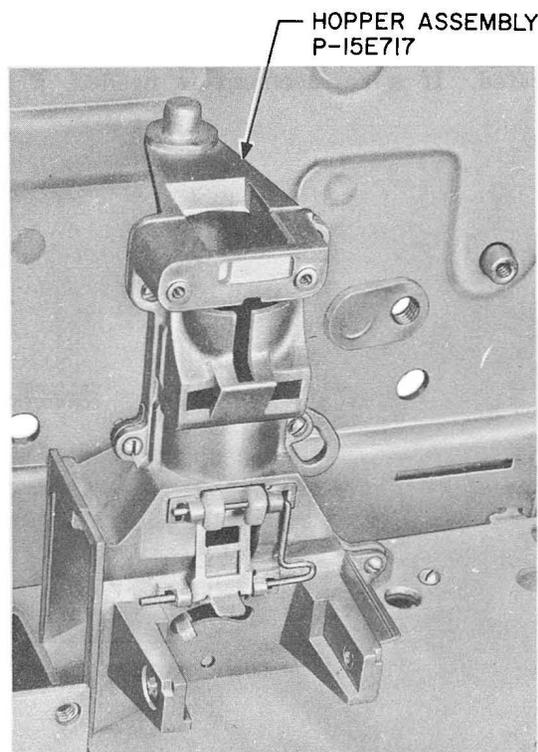
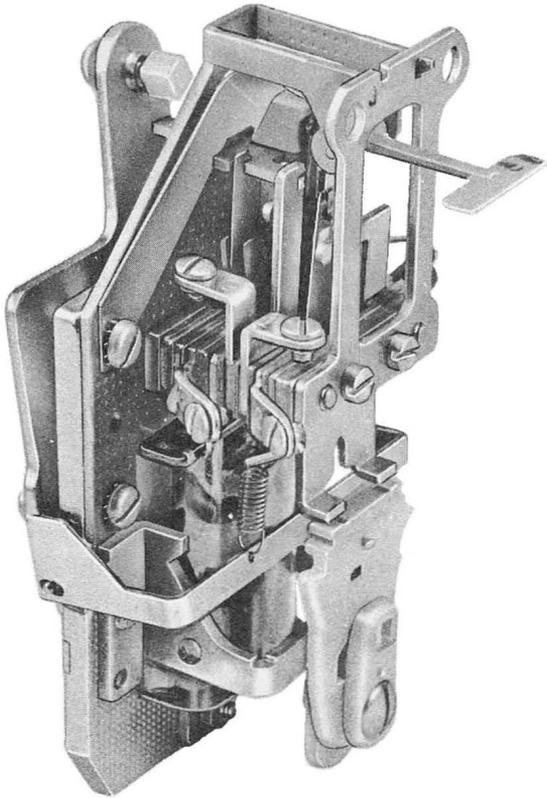

Fig. 9 - Hopper Assembly
Fig. 10 – Coin Relay
3.07 The hopper assembly is shown in Fig. 9. The coin relay (Fig. 10) mounts with four screws as in previous telephone sets.